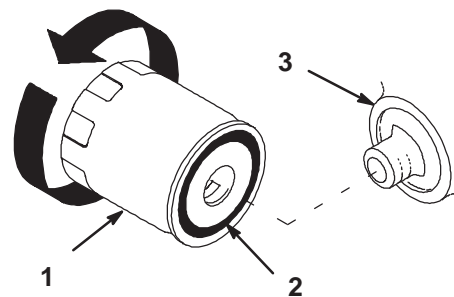

Figure 38
2. Remove the old filter and wipe the filter adapter (Fig. 38) gasket surface.
4. Apply a thin coat of new oil to the rubber gasket on the replacement filter (Fig. 38).
5. Install the replacement oil filter to the filter adapter. Turn the oil filter clockwise until the rubber gasket contacts the filter adapter, then tighten the filter an additional 1/2 turn (Fig. 38).